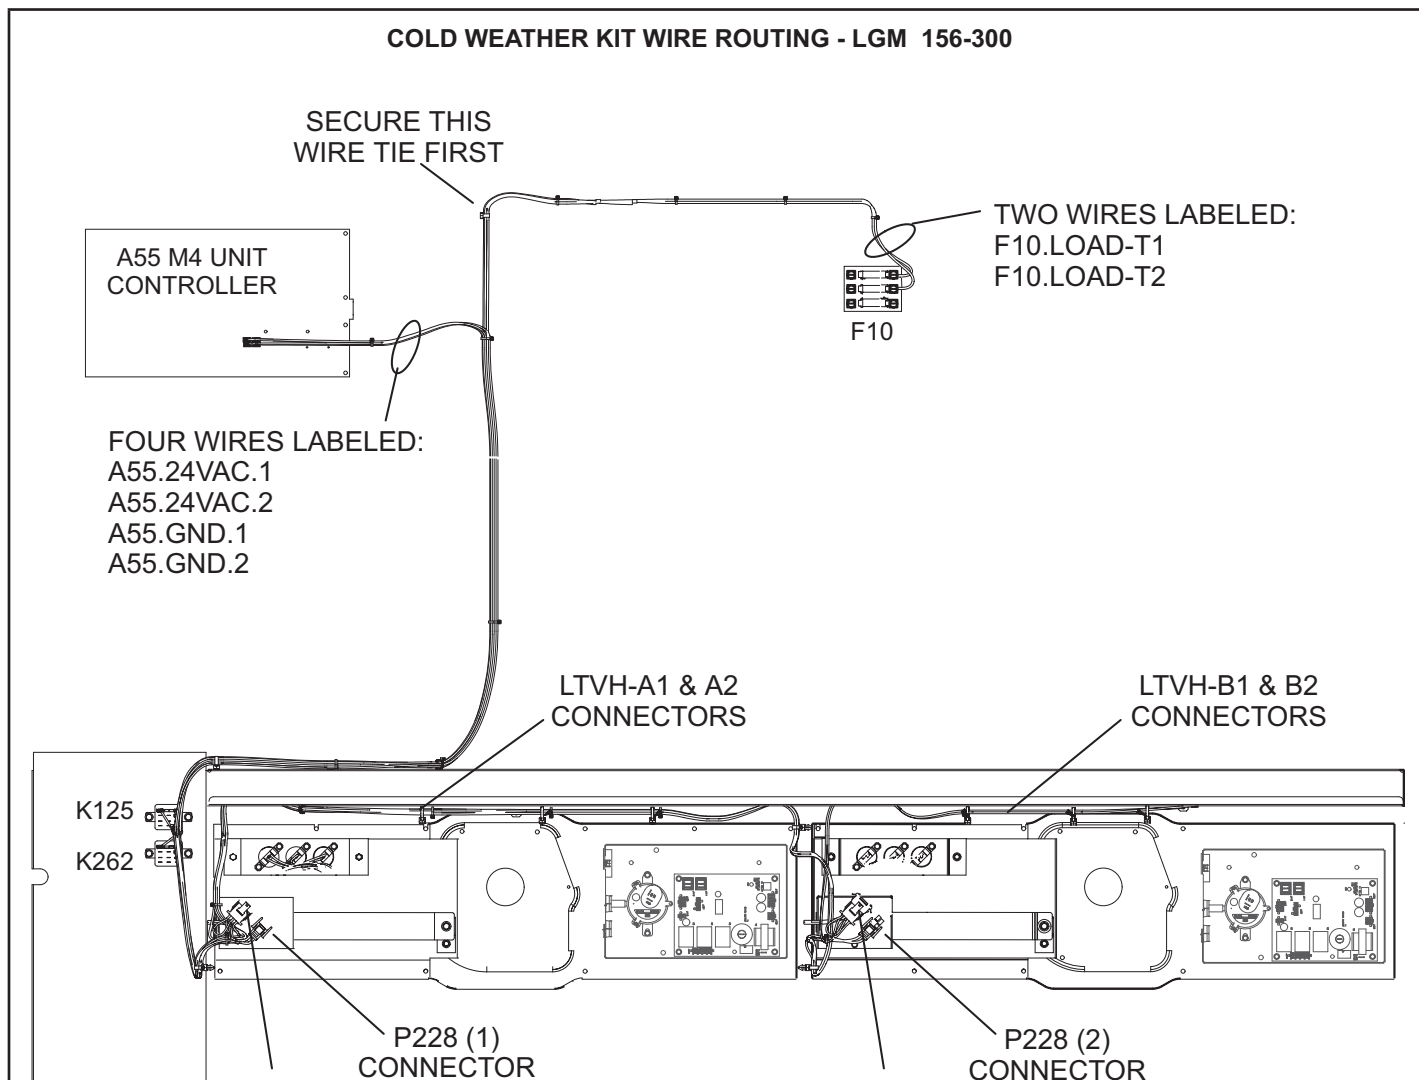

FIGURE 19
- 3 - Install both relays as shown in FIGURE 19. Secure with #8 screws.